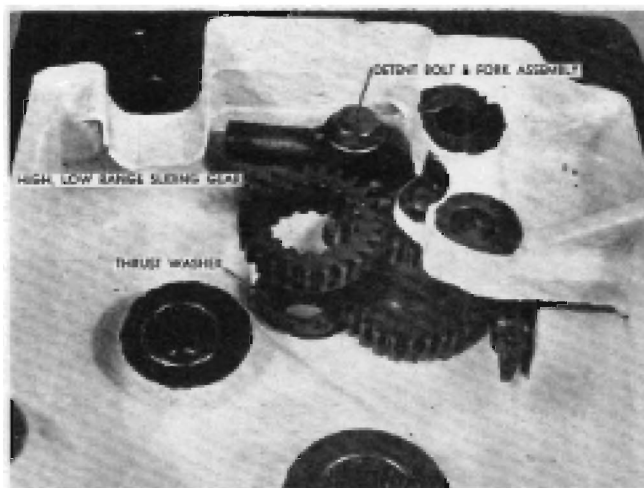

FIGURE 6
20. Remove the sliding gear from the high-low range shift fork assembly. Figure 6.
22. Remove the high-low range detent bolt and shift fork assembly. Figure 6.